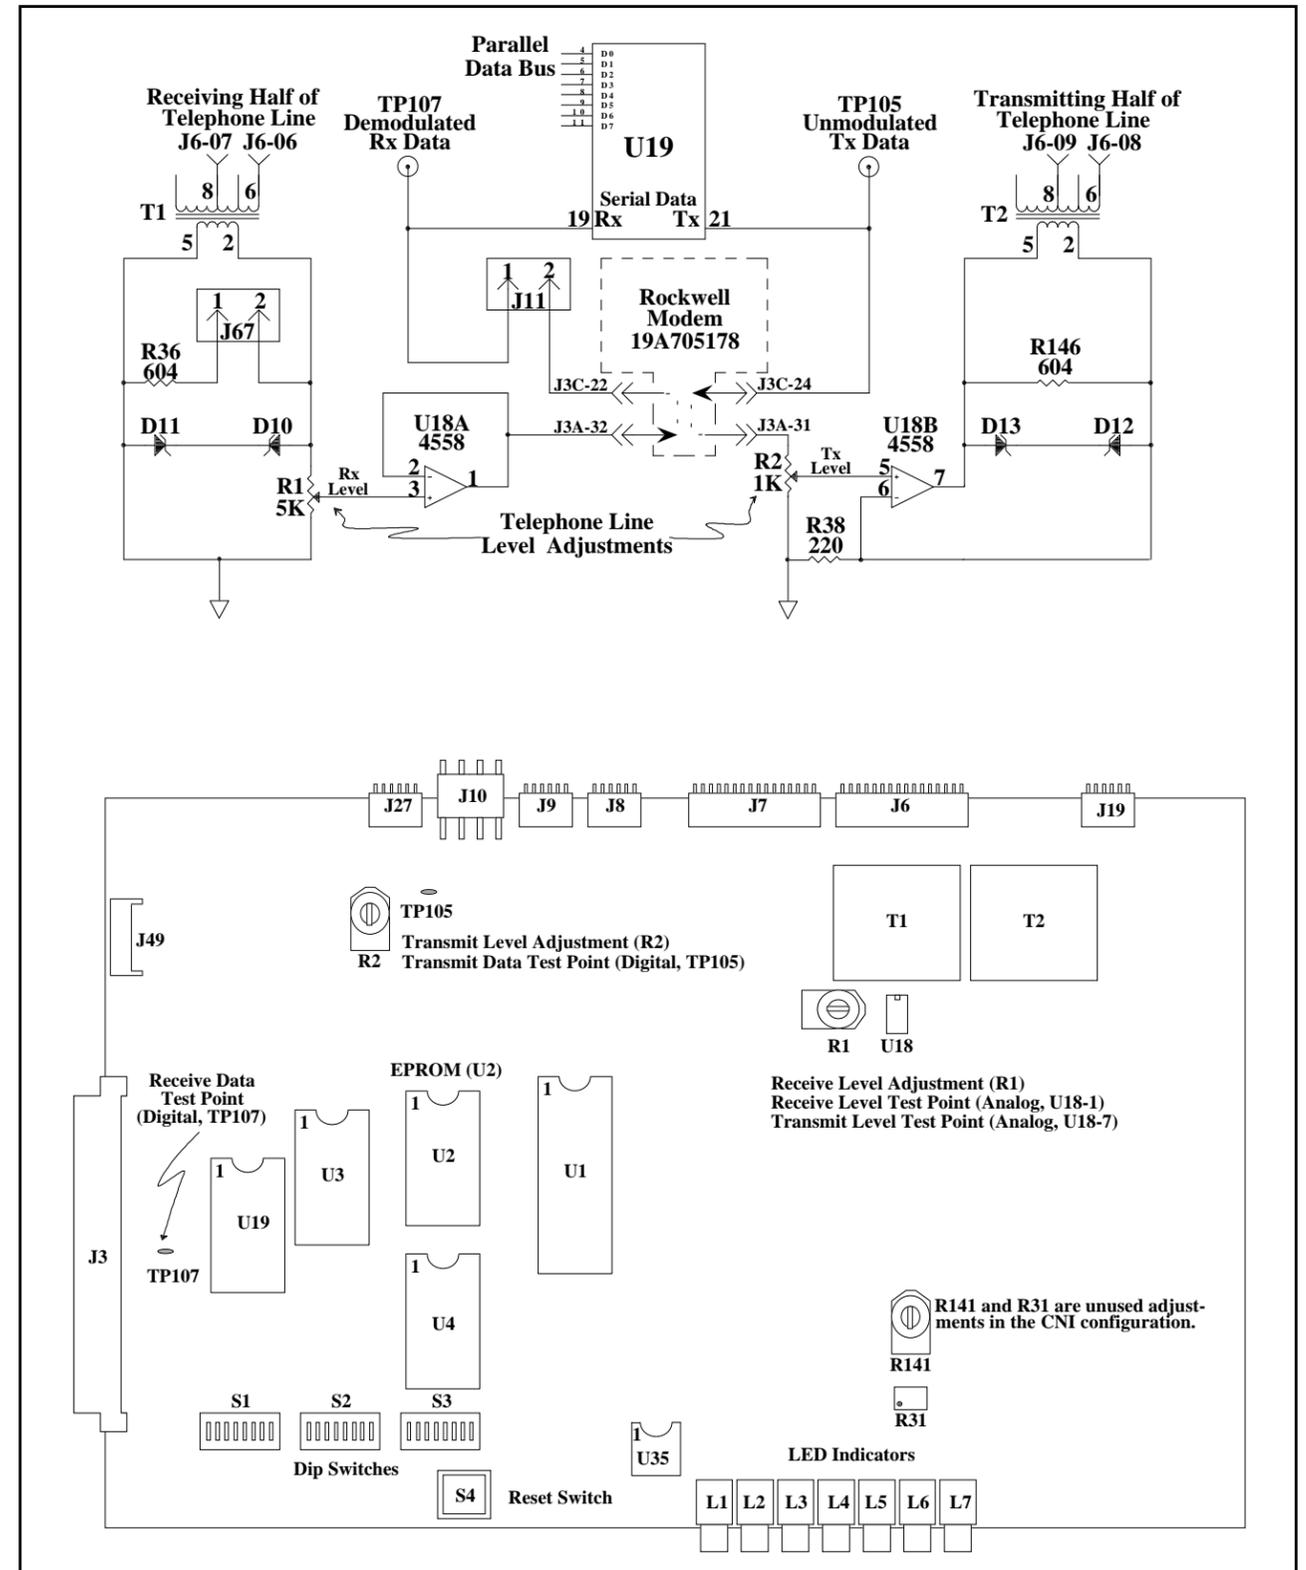

Figure 5 - GETC Phone Line Level Adjustments
9. Adjust the audio line levels as follows (refer to Figure 5):